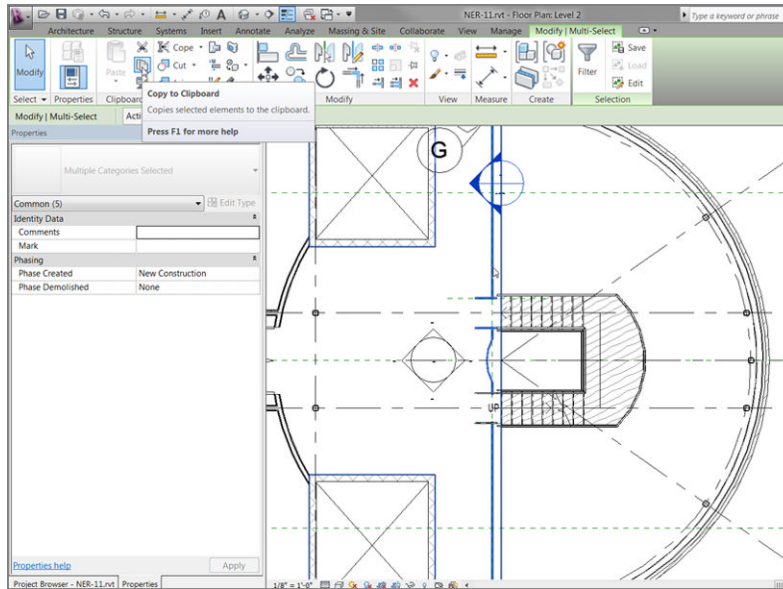

FIGURE 10.29: Copy the selected items to the clipboard.
1. Select the middle railing, the two ADA railing extensions, and the northern railing, as shown in Figure 10.29.
2. On the Modify | Multi Select tab, click the Copy To Clipboard button (see Figure 10.29).